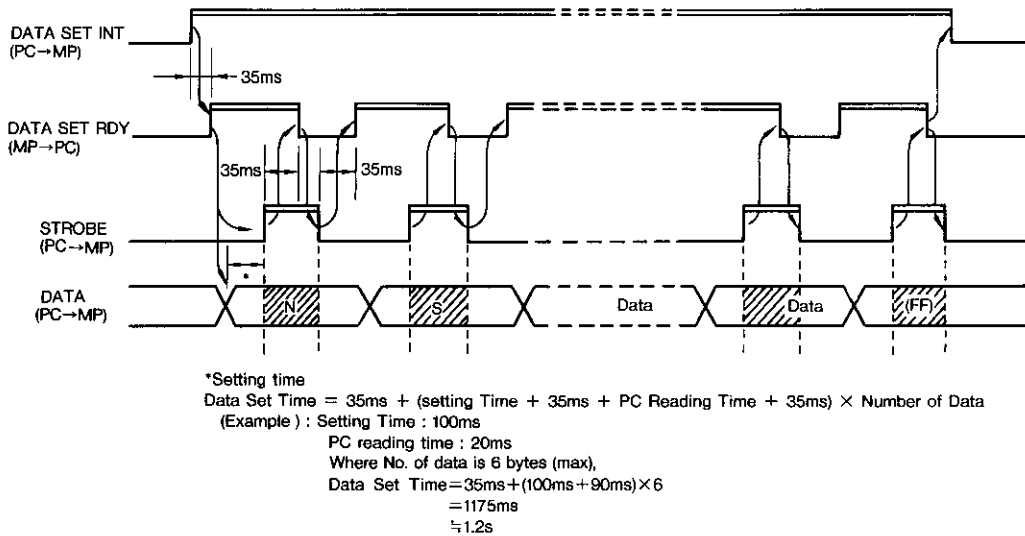

Fig. 11.13 Signal Timing Diagram
(f) Fig. 11.13 is the timing diagram for data setting.
- (1) External data setting operation is possible only in the AUTO mode and when the motor has stopped (i.e., while move pulse is not being output).
- (2) The external data setting function is activated only when the PC turns the external data setting interrupt (DATA SET INT) signal ON.
- (3) When Motionpack-34 receives the DATA SET INT signal, it changes to the external data setting mode and sets the data setting ready (DATA SET RDY) signal ON. (The condition described in (1) must be present ; otherwise, Motionpack-34 waits until that condition is established before setting the DATA SET RDY signal ON.)
- (4) When the PC recognizes that the DATA SET RDY signal has been set (ON), it sends the data signal ($D_0 \sim D_7$) and the strobe signal (STROBE).
- (5) When Motionpack-34 receives the data signal, it checks the data and if the data is correct, the DATA SET RDY signal is turned OFF.
- (6) The PC turns OFF the STROBE signal when the DATA SET RDY signal is turned OFF.
- (7) Motionpack-34 turns the DATA SET RDY signal ON when the STROBE signal is turned OFF.
- (8) Motionpack-34 completes the external data setting operation when it receives the $\{FF\}_{HEX}$ code. In other words, it does not set the DATA SET RDY signal ON when $\{FF\}_{HEX}$ is received.
- (9) When Motionpack-34 is executing the external data setting operation, the PC must not input the operation starting signal to Motionpack-34. (See Par. 11.3.7.3(4).)
- (10) Fig. 11.13 is the signal timing diagram.